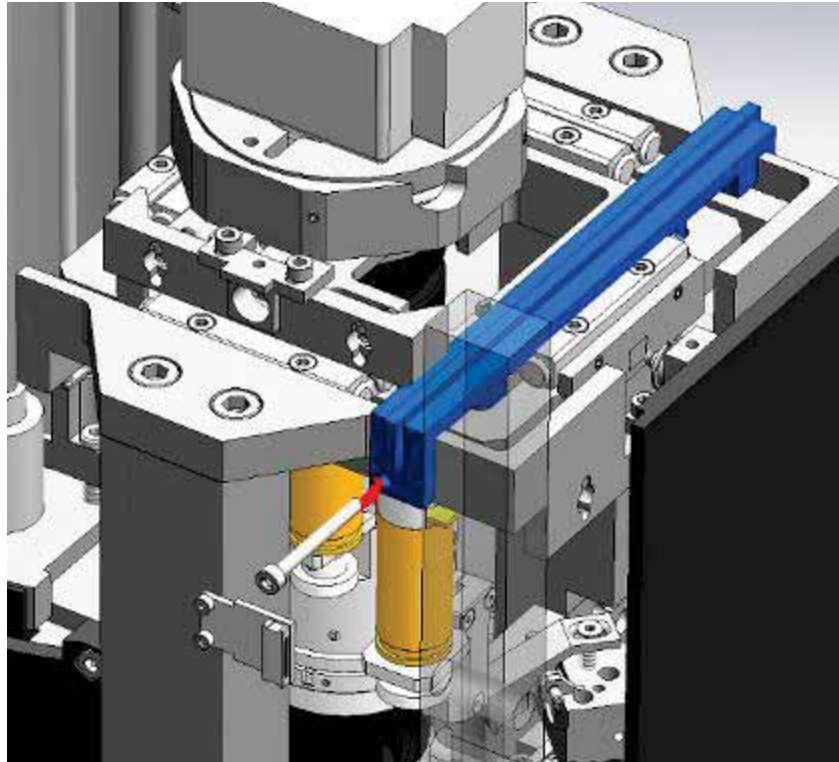

Fig. 2-13. Arrow indicates the hole for the screw
3. Secure the bracket with a screw M3 (Fig. 2-13).